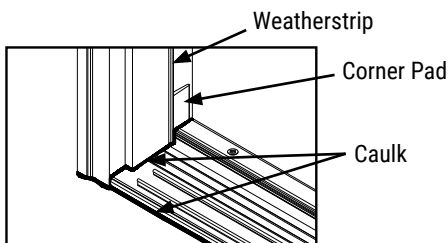

Figure 5a (inswing)
**5 IMPORTANT:** For inswing doors, install corner seal pads (included in the installation kit) at each side of an active door at the jamb, mullion or astragal bottom per **Figure 5a**. The corner seal pad should be tucked underneath the weatherstrip on each side of the active door. Caulk at the intersection of the jambs, brickmolds, mullion, sill, and floor per **Figures 5a, 5b and 5c**. Also, thoroughly caulk around between the brickmolds and exterior wall as shown in **Figure 5d**.